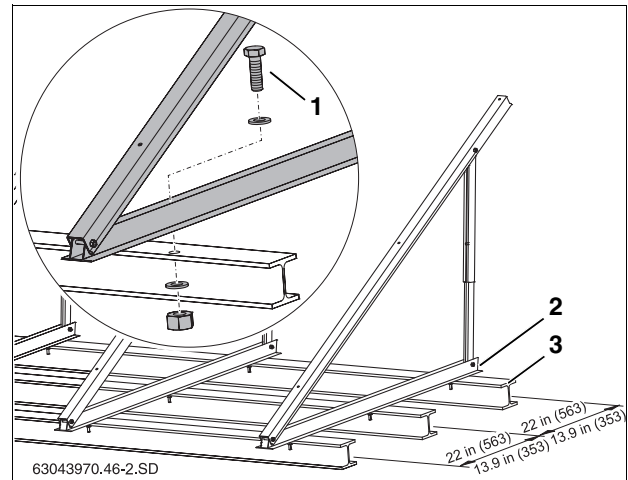

Fig. 26 Flat roof rack on girders, dimensions in mm (value in brackets = Landscape collectors)
Attach the flat roof racks with anchor bolts. As an example, see mounting on I-beams (Fig. 26, [3]).
- ▶ Transfer the lower horizontal rail hole clearances (Fig. 26, [2]) onto the I-beams, and drill corresponding holes.
- ▶ Insert screws (see Tab. 7 and Fig. 26, [1]) through the profiles and I-beams and tighten with nuts and washers.